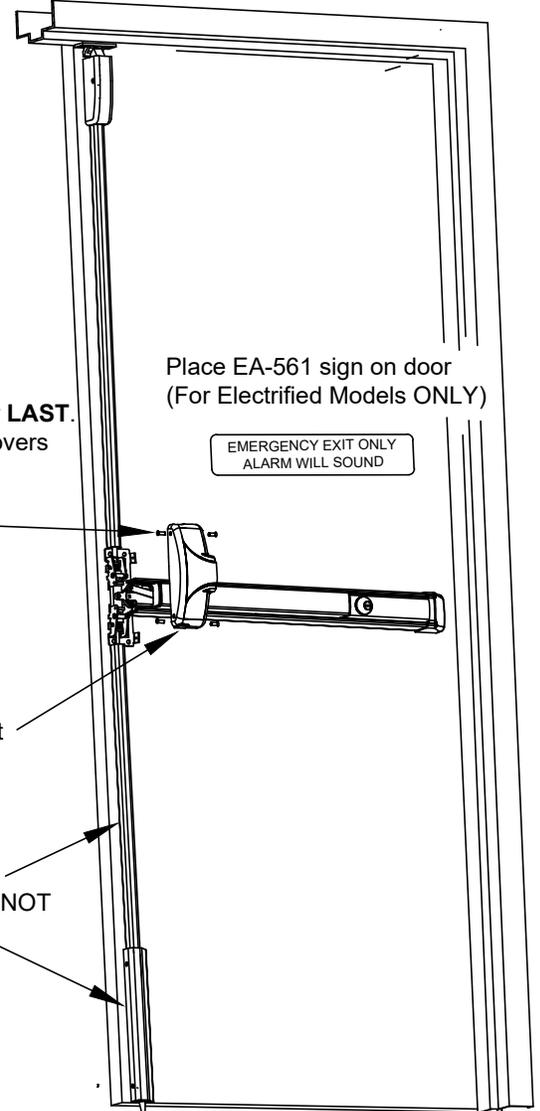

FIG. 24
For top rod only device (TRO) skip to Fig. 24 on page 19 and continue
**NOTE: FOR TOP ROD ONLY DEVICE (TRO) SKIP TO FIG.24 ON PAGE 19 AND CONTINUE**